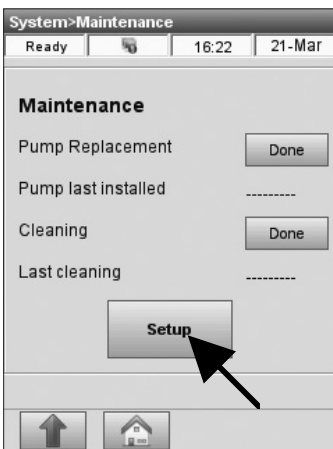

Fig. 3-98 Maintenance Setup
3. In the **<Maintenance>** menu (Fig. 3-98), press **<Setup>**.